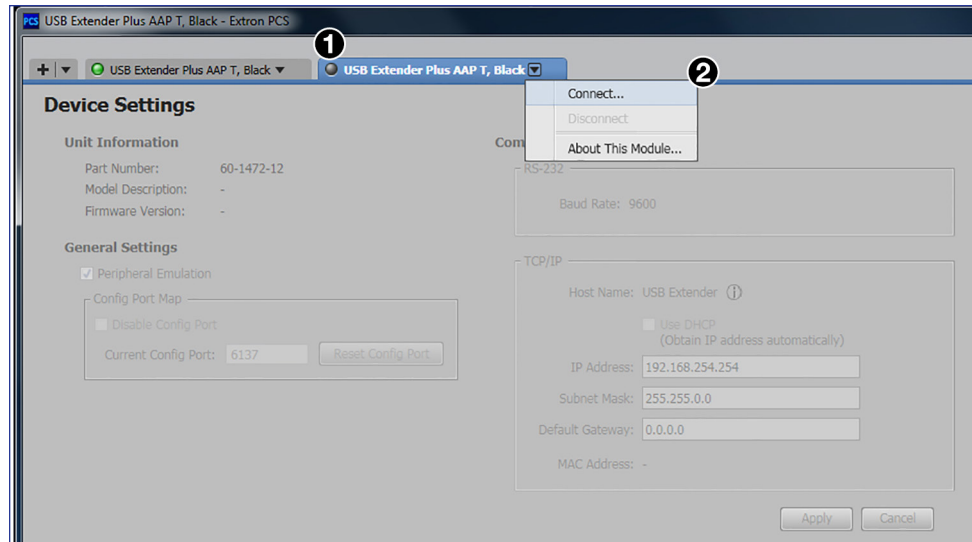

Figure 28. Selecting Connect from the Device Tab Menu
5. Use PCS or SIS commands to set the IP address, gateway address, and subnet mask as needed (see figure 28 on page 29).
The dialog box closes and the Device Settings screen appears, with name of the selected device on a new tab at the top of the screen (see figure 28, ❶).